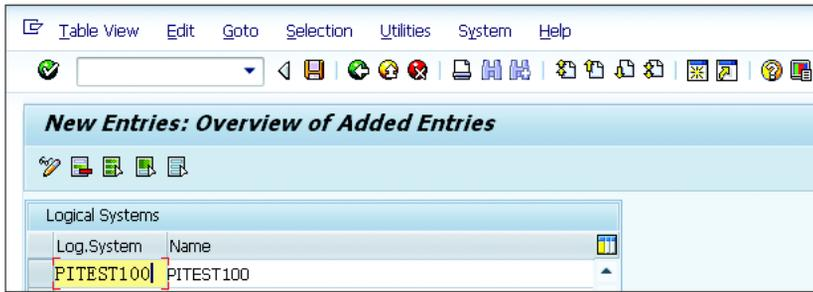

Figure 3.37 Creating the Logical System
- To establish the connection with SAP CRM and SAP PI, you need to create the logical system for SAP PI, as shown in Figure 3.37.